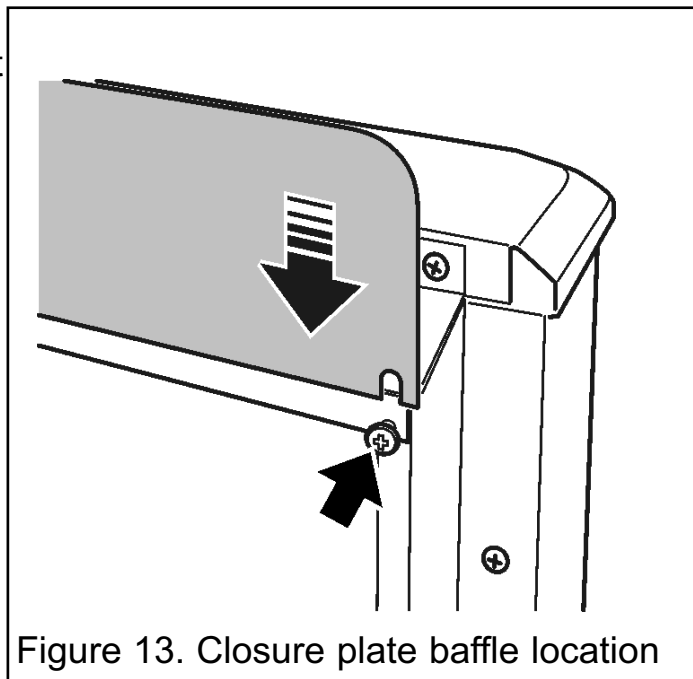

Figure 13. Closure plate baffle location
- Locate the baffle onto the screws as in figure 13. The baffle is angled and should lean towards the rear of the fire.